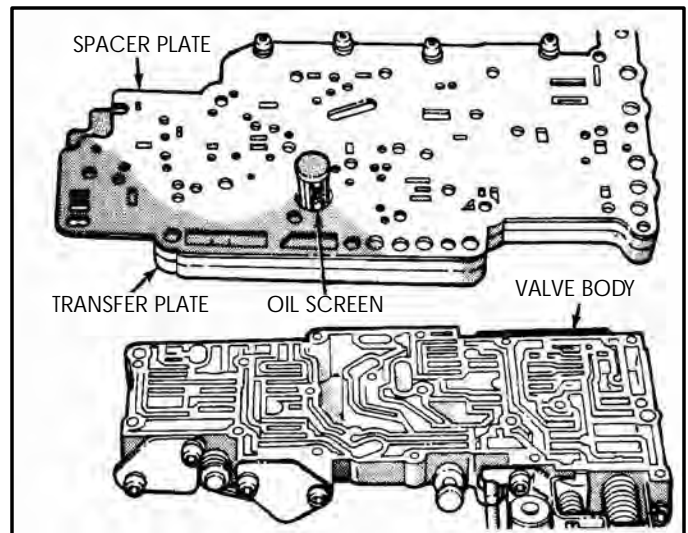

Figure 92
3. Separate the transfer plate and valve body, as shown in Figure 92.